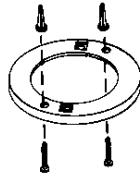
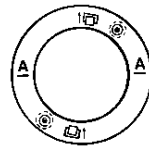

Fig. 1
Fig. 2
5. After selecting the proper smoke alarm location as described in Section 1, attach the mounting plate to the ceiling as shown in Figure 1. For wall mounting see Figure 2. Place mounting plate on the wall. Be sure the "UP FOR WALL MOUNTING" text and arrow are facing up. Use the screws and anchors provided to secure the mounting plate.